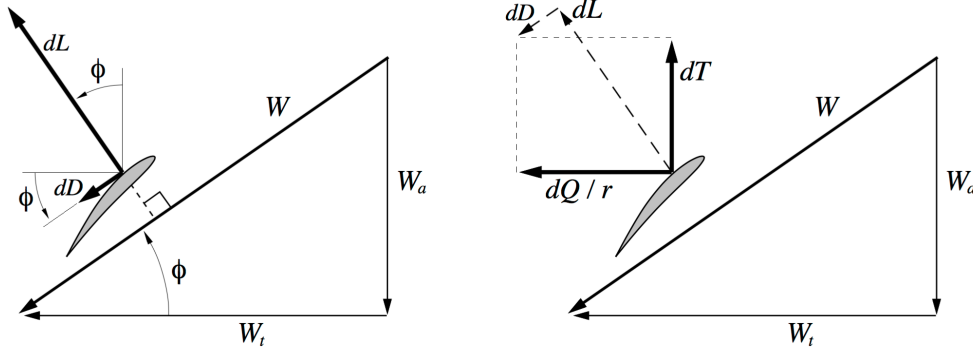

Figure 1.2: Lift and drag decomposition
Once convergence has been reached, the angle of attack, and flow relative velocity to the blades are known and the lift (L) and drag (D) forces can be obtained per radial station using the airfoil polars. What the airfoil polars are and how they are obtained will be discussed later. The lift and drag forces per radial station (dT and dQ) can be decomposed into thrust and torque as seen in Fig. 1.2 leading to